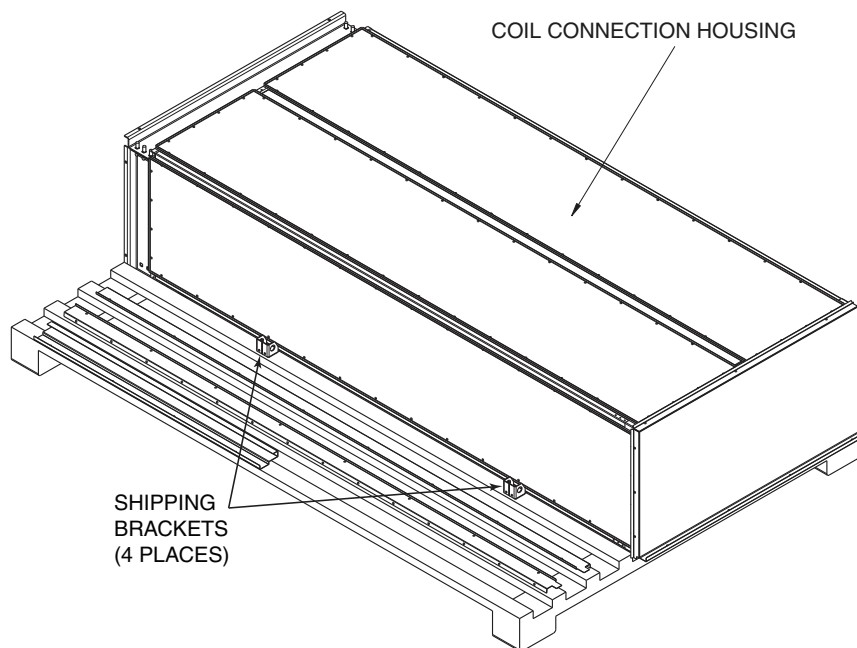
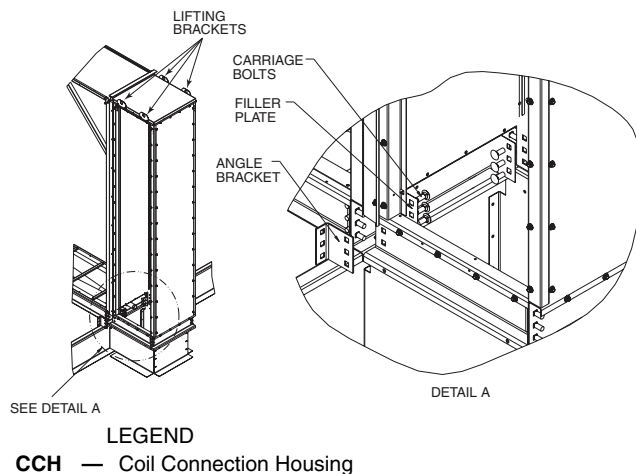

Fig. 53 — Remove Shipping Brackets
Fig. 59 — Positioning CCH
2. Remove the screws in the shipping brackets holding the CCH to the skid. (Do not remove the brackets at this time.) See Fig. 53.
- a. Using the lifting brackets (shown in Fig. 59), lift the CCH into the vertical position and remove the shipping brackets (shown in Fig. 53).
- b. Using the lifting brackets (shown in Fig. 59) place the CCH on top of the CCH curb. Once in position there should be about a 2-in. gap between the unit wall and the CCH frame covered by the flashing.
11. Attach the angle bracket using the lifting lug nuts and washers; do not fully tighten. **DO NOT USE THIS PART FOR LIFTING THE UNIT.** See Fig. 59, Detail A.
12. Place the filler plate inside the CCH baserail, align the square holes with the pattern on the base rail and the angle bracket, then insert the 3 carriage bolts provided through the plate, base rail and angle bracket. Fully tighten with provided washers and nuts. See Fig. 59, Detail A.
13. Finish tightening the angle bracket to the unit base rail. See Fig. 59, Detail A.